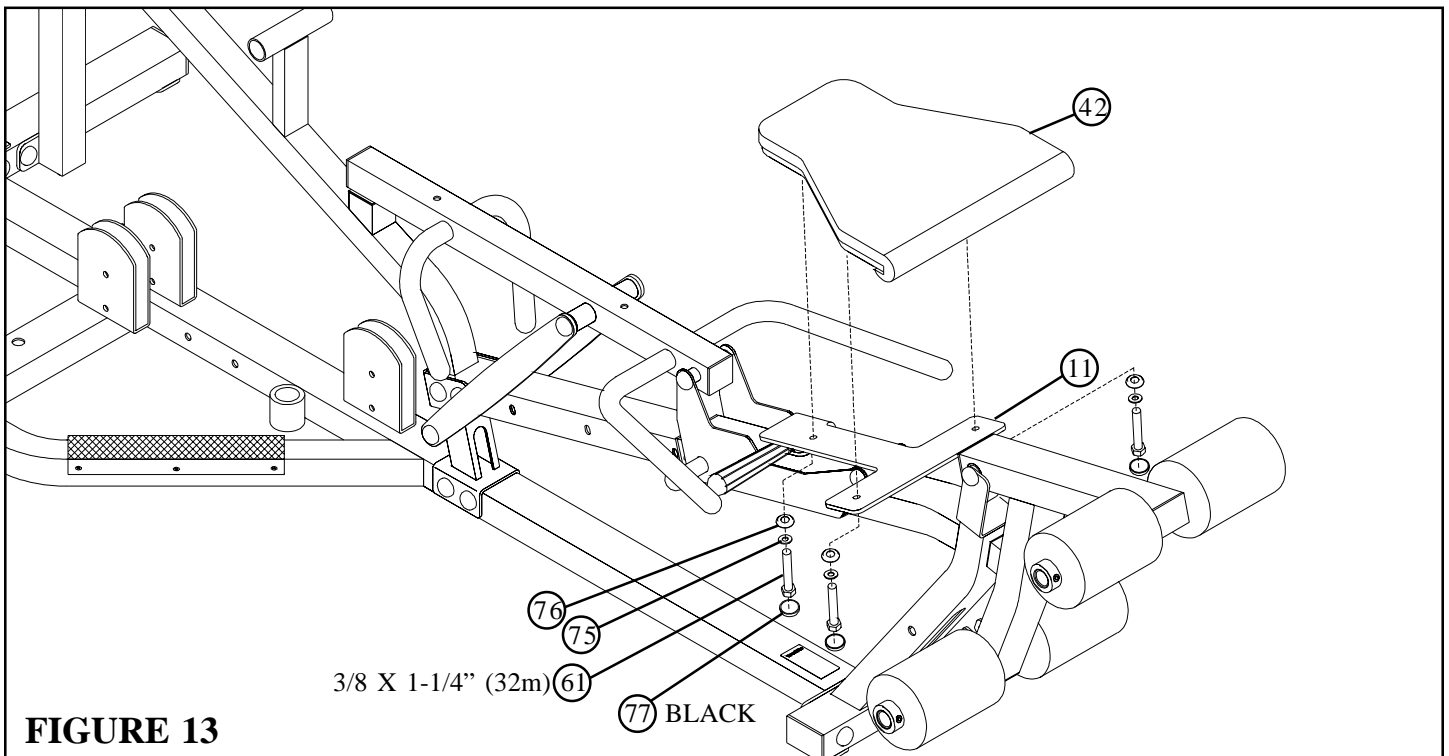

FIGURE 13
- **SECURELY** assemble the SEAT PAD (42) to the SEAT SUPPORT (11) using three BLACK RH CAPS (77), three 3/8 X 1-1/4" BOLTS (61), three 3/8" SAE WASHERS (75) and three 3/8" RH WASHERS (76) as shown in FIGURE 13.